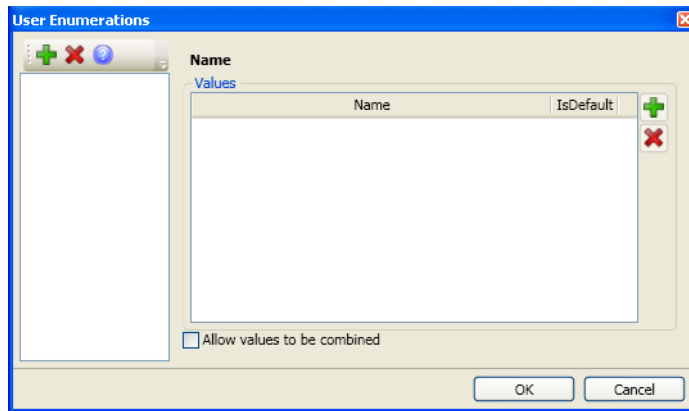

Figure 43. User Enumerations
1. Click  in the toolbar appearing on top of the **User Enumerations** window, to create a new user enumeration. Refer Figure 43.